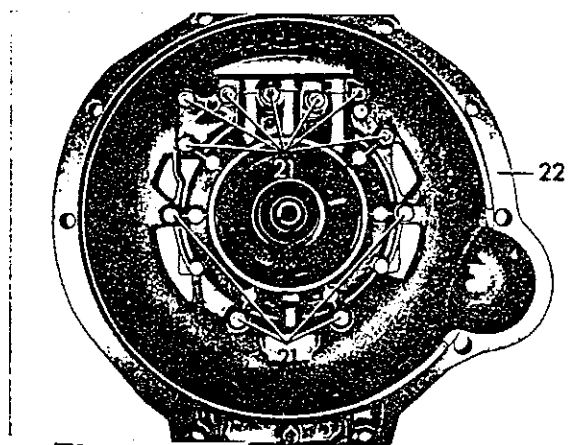

Fig. 47
29 Mount front transmission case (22) with new gasket. Screw down attaching screws and tighten to specified torque **Fig. 47**